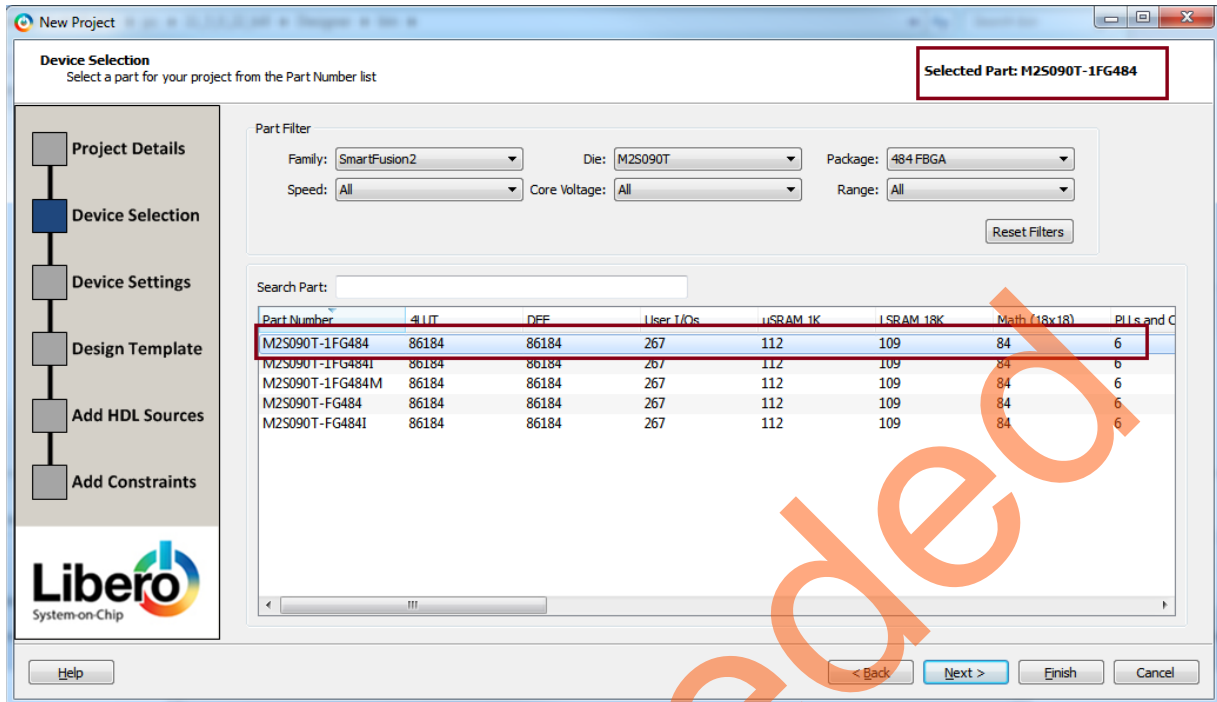

Figure 3. Device Selection Window
3. Click **Next**. In the **Device Selection** window, select the information displayed in Figure 3.